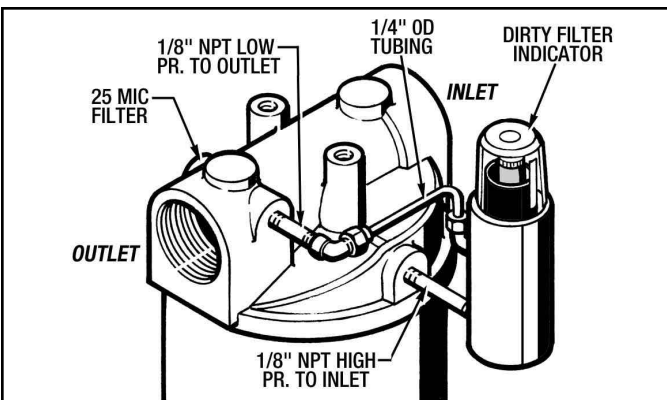

Figure 3.2 - Installing Dirty Filter Indicator
2. **A Pressure Differential (Dirty Filter) Indicator** is installed on the filter as shown in Figure 3.2.